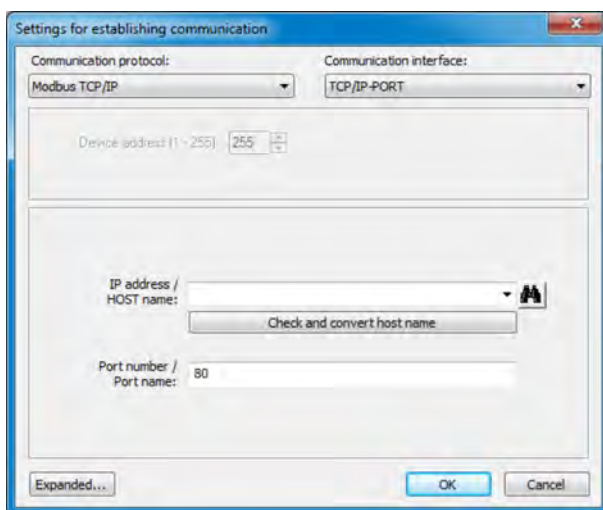

Fig. 116: Communication settings
3. Make your protocol and interface settings and click OK. If necessary, first click "Advanced ..." to perform advanced communication settings. (See Fig. 116 .)